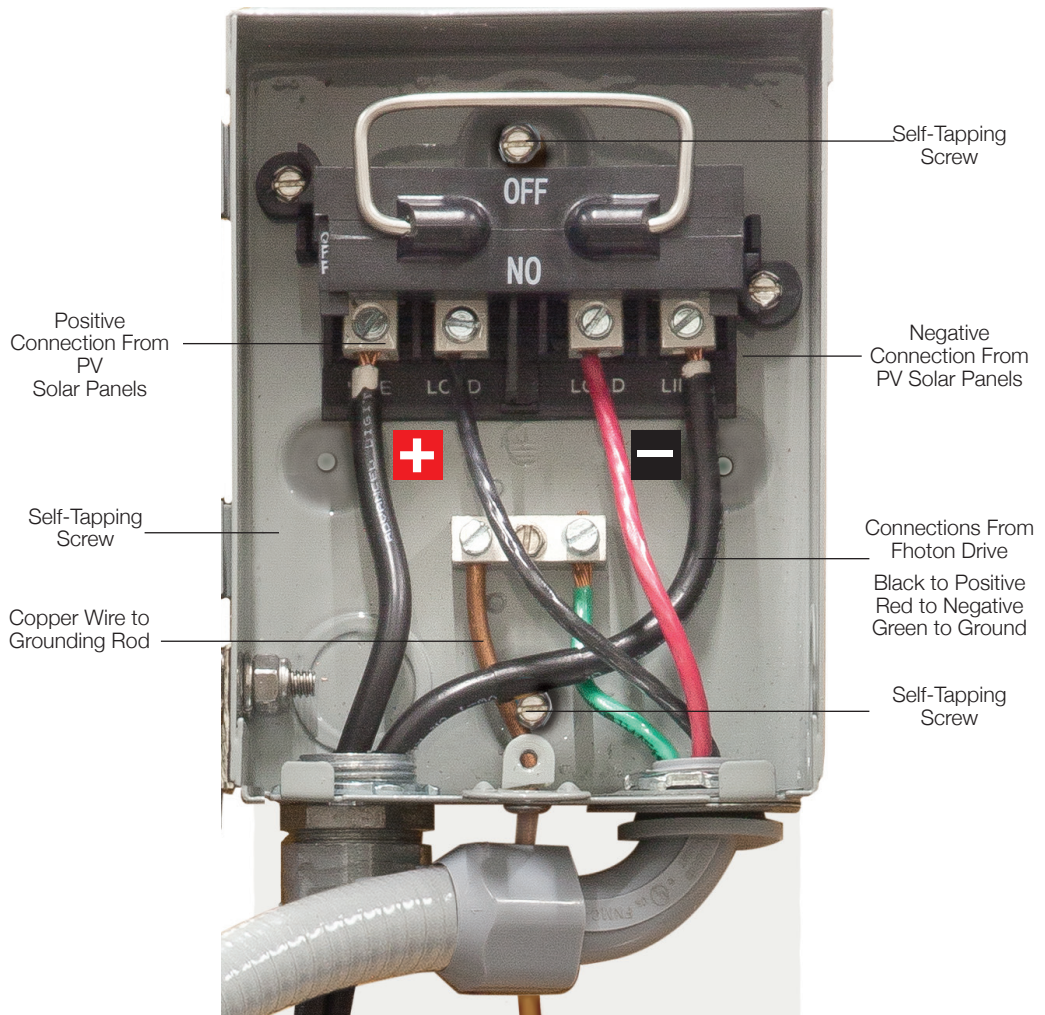

Figure 11-2: Disconnect Box Connections
- Connect load wires from DC Disconnect to Solar Primary DC Terminal Block. See figure 11-2 and 11-3.
- Feed the PV Solar power cable through supplied panel connector and attach positive and negative connections as shown in figure 11-2. Leave opposite end of cable unconnected until solar panels are covered and interconnected.